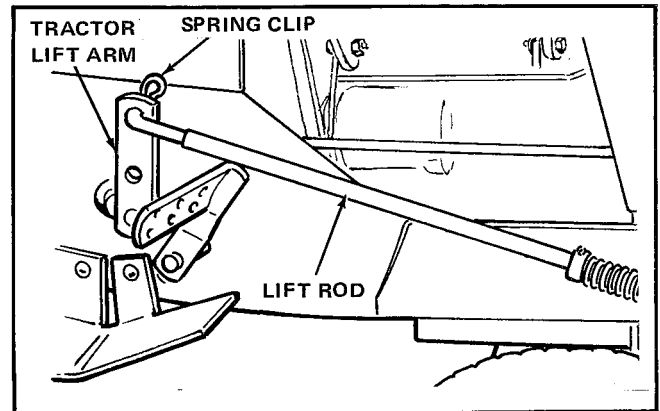

Figure 2. Attach Lift Rod
3. Insert end of lift rod through tractor lift arm. Then install a spring clip through hole in end of lift rod (see figure 2).
- Remove the spring clip and detach snow thrower lift rod from tractor lift arm (see figure 2). Store spring clip in lift rod hole.